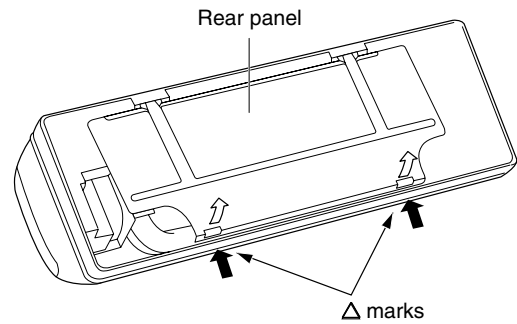

Fig. 3-13
- (2) Press the 2 \triangle marks on the frame cover and disengage the stationary tabs from the frame. (Fig. 3-13)
- (3) Remove the rear panel.